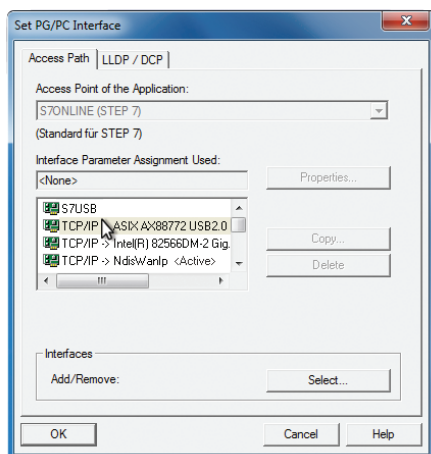

Fig. 19: Set PG/PC Interface (source: Siemens)
2. Select a connection from the list, which is connected with CP1616, and press “OK” to confirm (Fig. 19).